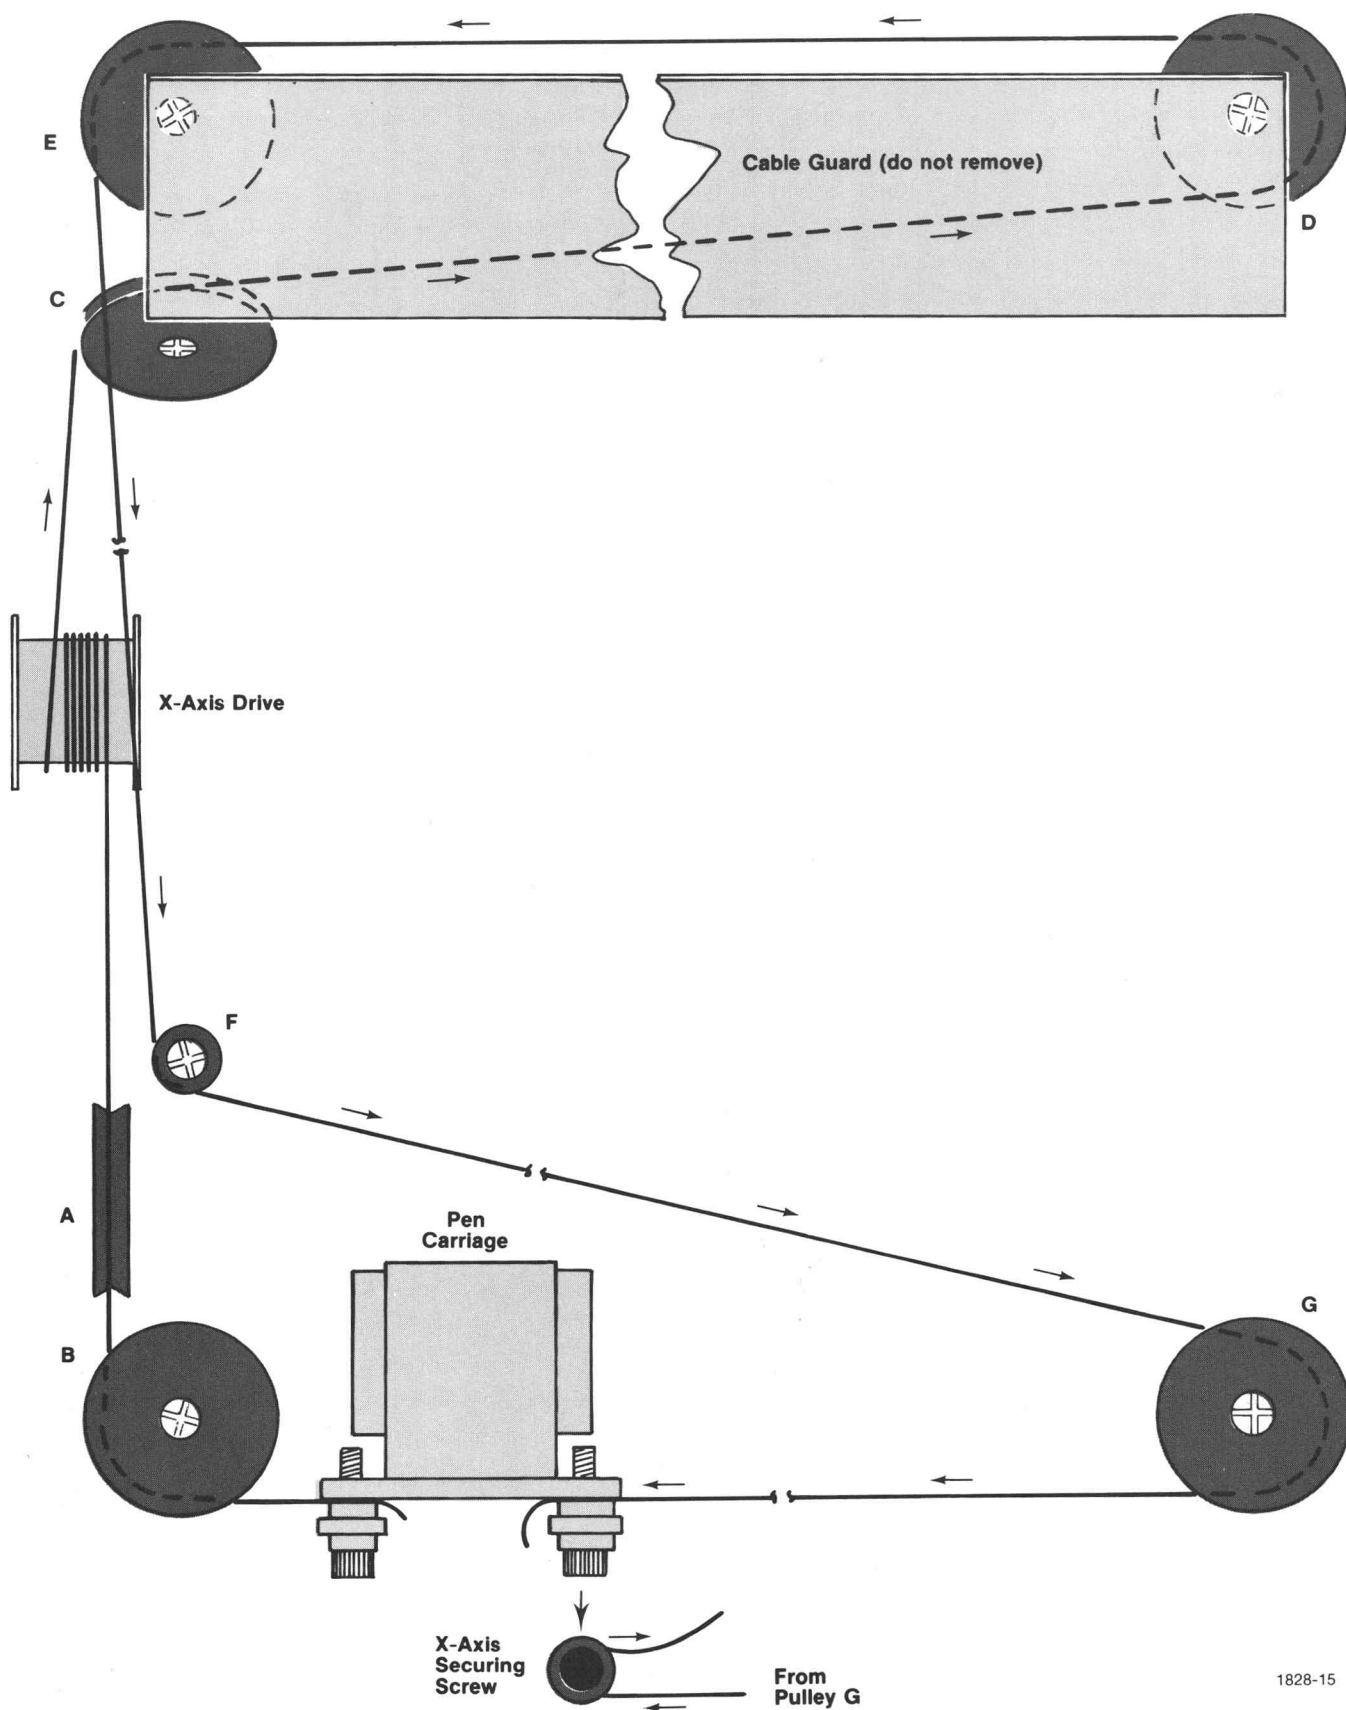

Fig. 3-15. X-Axis Cable Stringing—Part 2.
7. Loop the long end of the drive cable counterclockwise over the top of the X axis drive pulley. Refer to Fig. 3-15. Feed the remainder of the cable clockwise across the back of pulley C, across the rear of the Plotter under the guard plate, counterclockwise around pulley D, across the rear of the Plotter, around the back of pulley E, around the front of pulley F, across the front of the plotter, and clockwise around pulley G. Fasten the cable with the securing screw on the right-front side of the pen carriage. *Do not cut the excess cable.* Check to be sure the drive cable lies in the grooves of the appropriate pulleys.